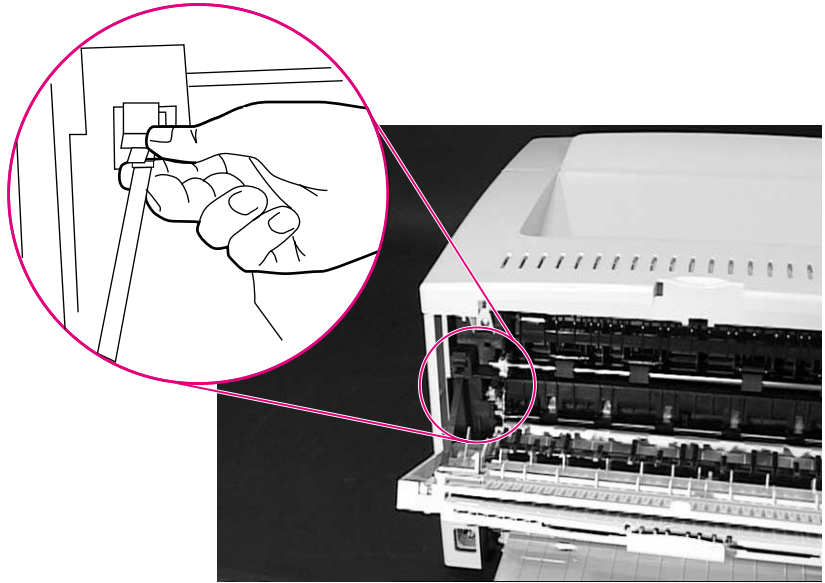

Figure 17 Removing the support strap (rear view of the printer)
- a. Pinch the top of the strap with your index finger underneath the strap, and your thumb on top of the tab (Figure 17).